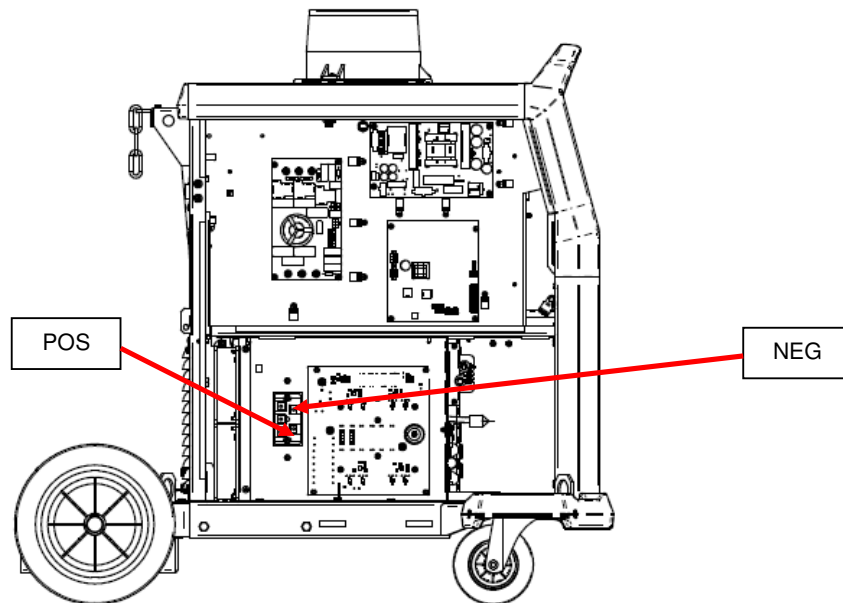

Figure 1
3. Remove the 4 screws (**A**) from the rear position of the left and right side panel. **See Figure 1**
4. Locate the terminals **POS** and **NEG** on the Input Rectifier bridge, **See Figure 1**.
8. Use electrically insulate gloves and insulated pliers. Hold the body of the resistor and connect the resistor leads across the two points POS and NEG. **See Figure 1**. Hold the resistor in place for 10 seconds. DO NOT TOUCH CAPACITOR TERMINALS WITH YOUR BARE HANDS.